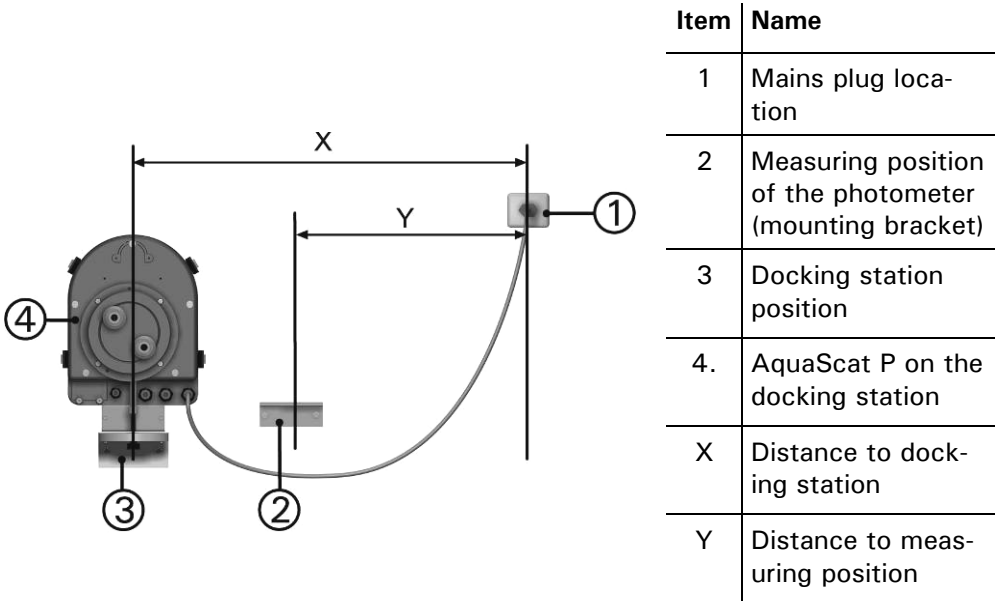

Figure 5: Position of the docking station
Fasten the docking station (3) to the wall as close as possible (distance X) to the measuring position of the photometer (4), thus eliminating the need to unplug the power supply cable (1) (→ Figure 5).